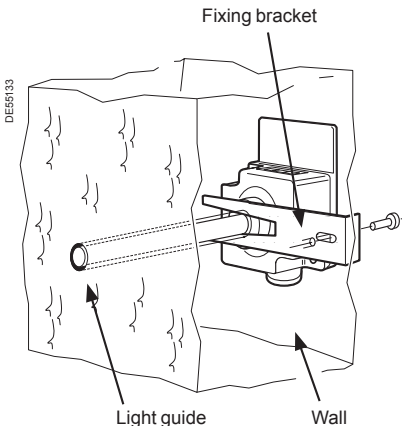

Fig. 9
- an anti-vandalism box (fig. 9).